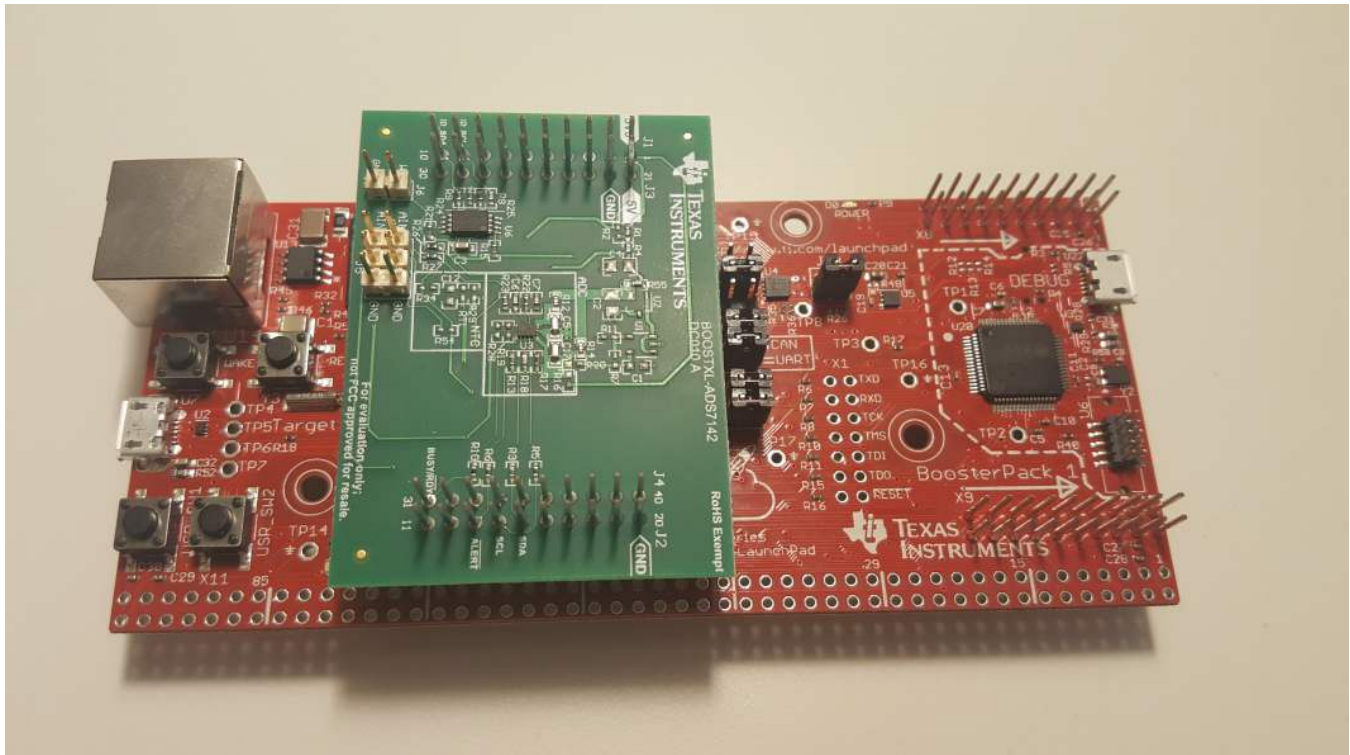

Figure 6. BOOSTXL-ADS7142 Stacked on TM4C1294 LaunchPad™
4. Figure 6 shows the assembled BOOSTXL-ADS7142 and EK-TM4C1294XL configuration.